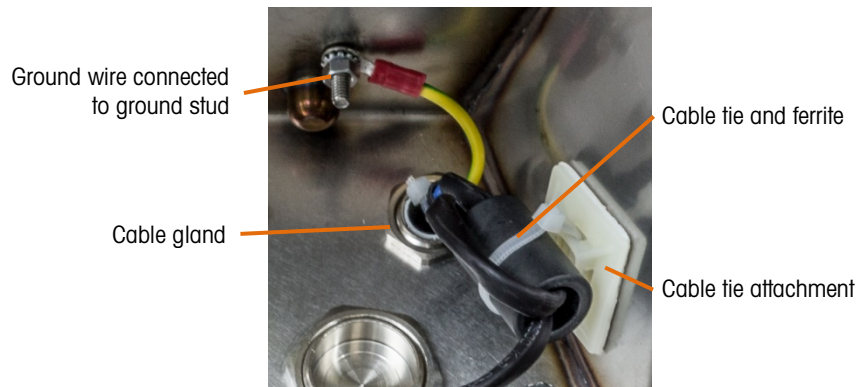

Figure 2-16: Reversed Location of Power Cord
- J. Install the ferrite on the power cable, taking one turn as shown in Figure 2-16.
- K. Adhere the cable tie attachment to the enclosure at the location shown in Figure 2-16 and Figure 2-17. Cable-tie the ferrite in place, and cut off any excess length from the tie.